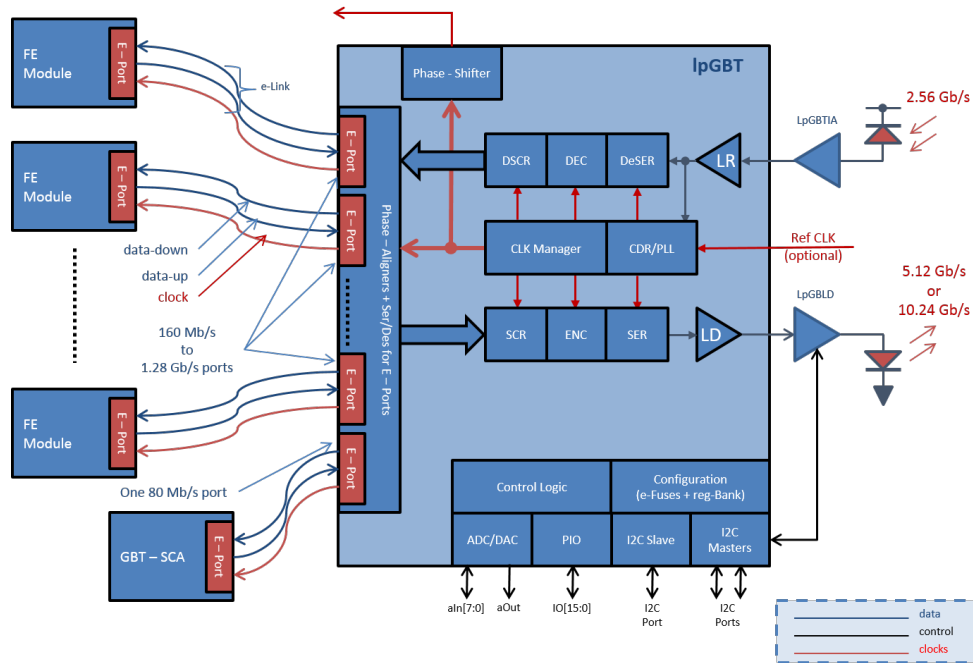

Fig. 1.2: IpGBT architecture
The general architecture of the IpGBT ASIC and its main external connections are displayed in Fig. 1.2. In its generic configuration the IpGBT connects to a laser driver ASIC and a trans-impedance amplifier ASIC.
**Electrical links (eLinks)** interconnect the IpGBT with the front-end electronics (detector modules or ASICs) (see Fig. 1.2). They consist of three differential pairs: two to transmit data from the front-end to the IpGBT (input eLinks) or from the IpGBT to the front-end (output eLinks) and a differential pair to transmit a clock to the front-end. Notice that, because of the asymmetric bandwidth of the up and downlinks, the number of input and output eLinks is not the same. The same is true for the bandwidth of the input/output eLinks. The number of **clock eLinks (eClocks)** available is the same as the number of input eLinks. The bandwidth of the eLinks is programmable and, in the case of the input eLinks, it also depends on the uplink bandwidth (5.12 or 10.24 Gb/s) and on the FEC code selected (FEC5 or FEC12).